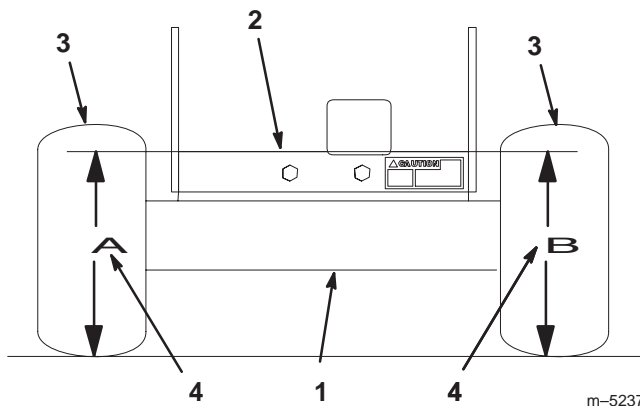

Figure 48
3. Measure engine deck height at location **A** (Fig. 48).
4. Measure engine deck height at location **B** (Fig. 48).